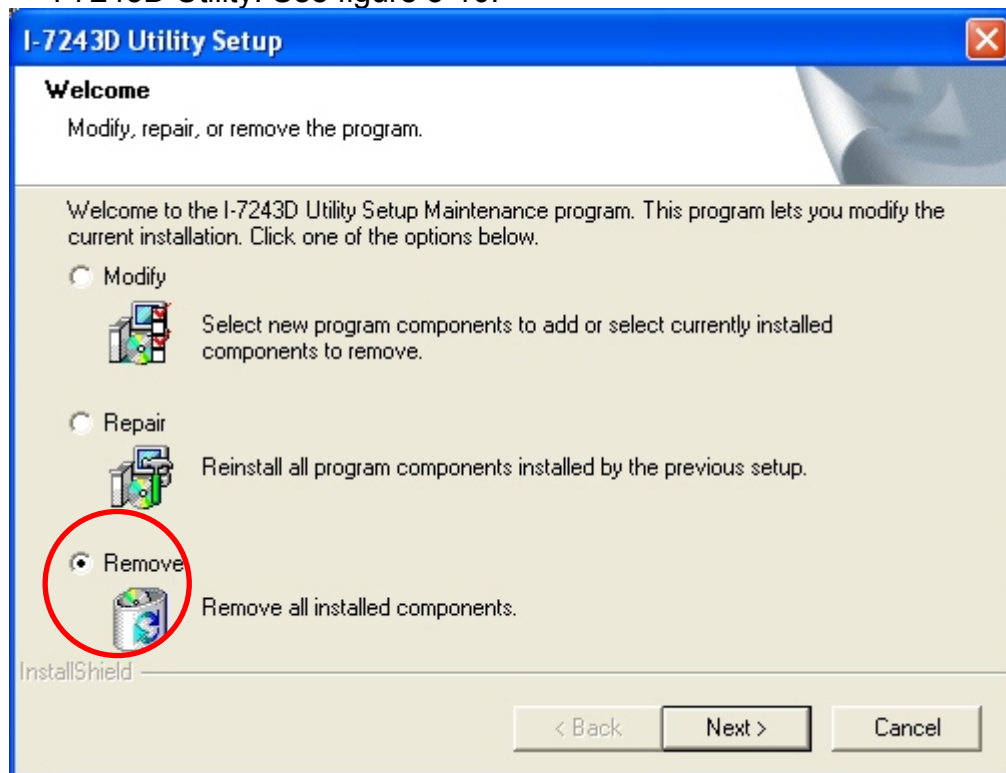

Figure 5-10: “Modify, repair, or remove the program” dialog
Step 4: Select the “Remove” option button, and press the “Next” button to remove I-7243D Utility. See figure 5-10.